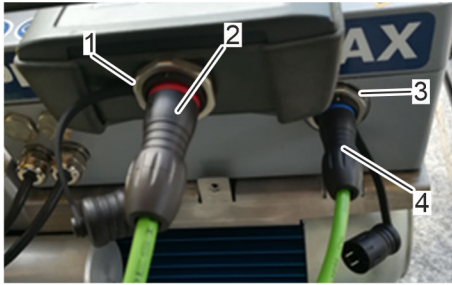

Fig. 39: Connecting the adapter cable
1. ➤ Connect the red bushing of the adapter cable (Fig. 39/2) to the control unit (BE) (Fig. 39/1).
2. ➤ Plug the blue plug of the adapter cable (Fig. 39/3) into the documentation and service interface of the hydraulic power pack (Fig. 39/4).
- ⇒ The control unit (BE) is supplied with electrical energy.
12.5 Putting the control unit (BE) into operation